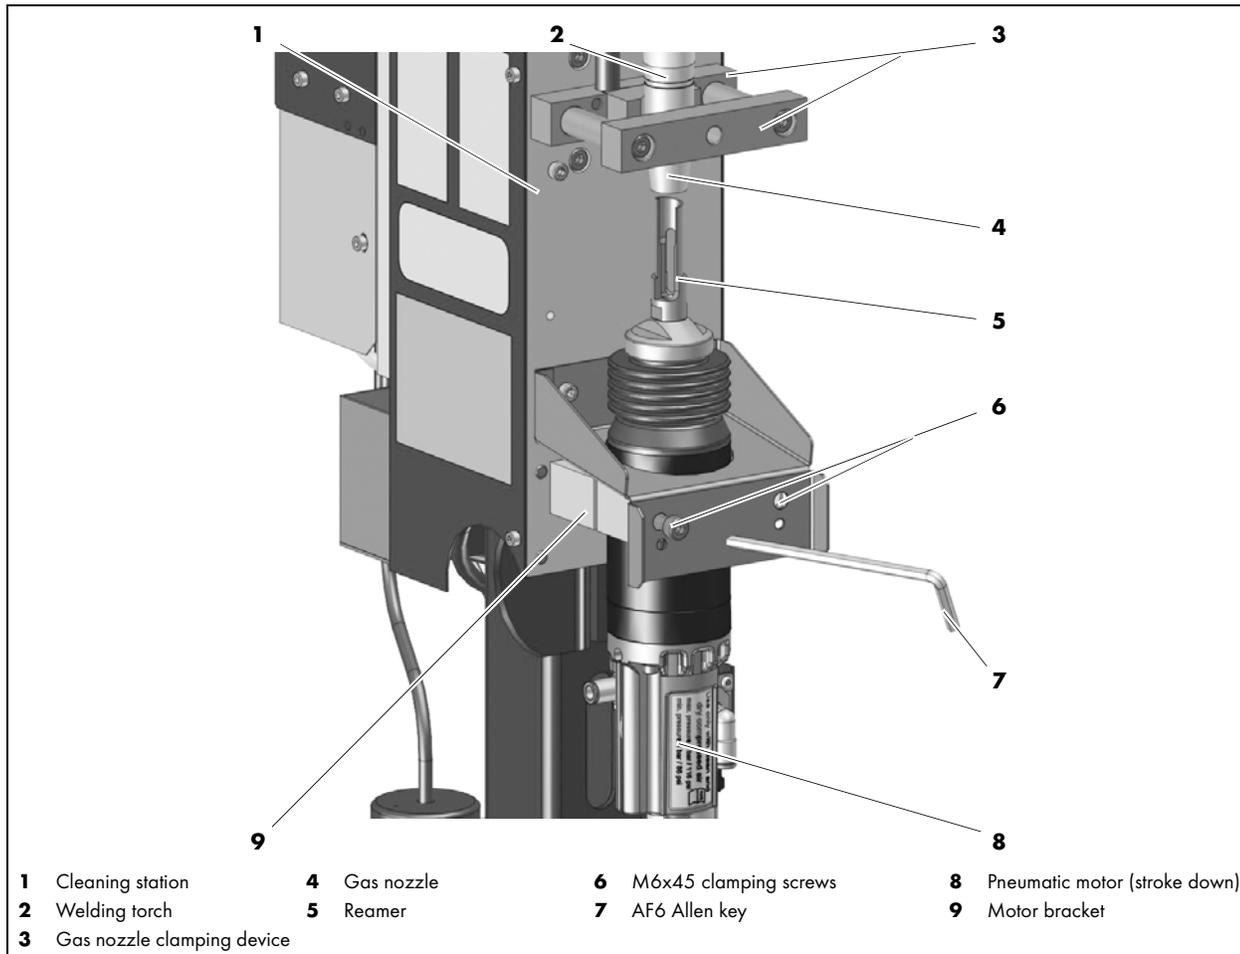

Fig. 19 Setting up the pneumatic motor
- Fig. 19 Setting up the pneumatic motor on page EN-26
□ Fig. 19 Setting up the pneumatic motor on page EN-26